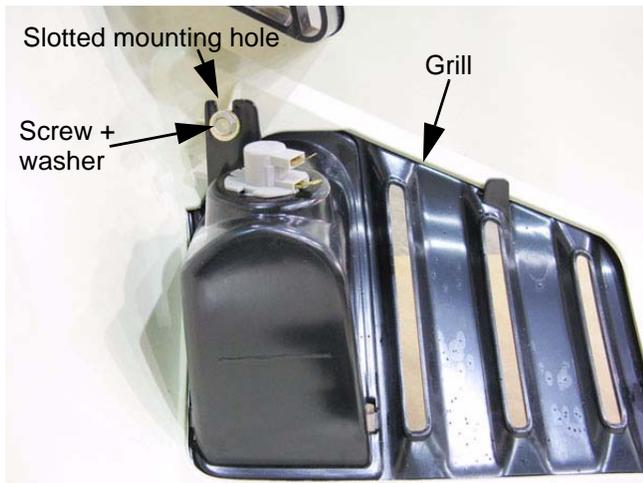

Figure 4.8
2. Loosen, but do not remove the screws that hold the upper corners of the grill to the hood using a 3/8" wrench. See Figure 4.8.